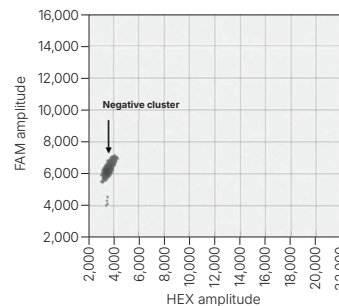

Fig. 26. 2-D plot for two wells of no template control.
- Examine the no template control (NTC) wells to detect potential contamination. Ideally, all other droplets should be classified as negative. Tolerance to positive droplets should be determined by the end user. See Figure 26 for an example 2-D plot of no template control.